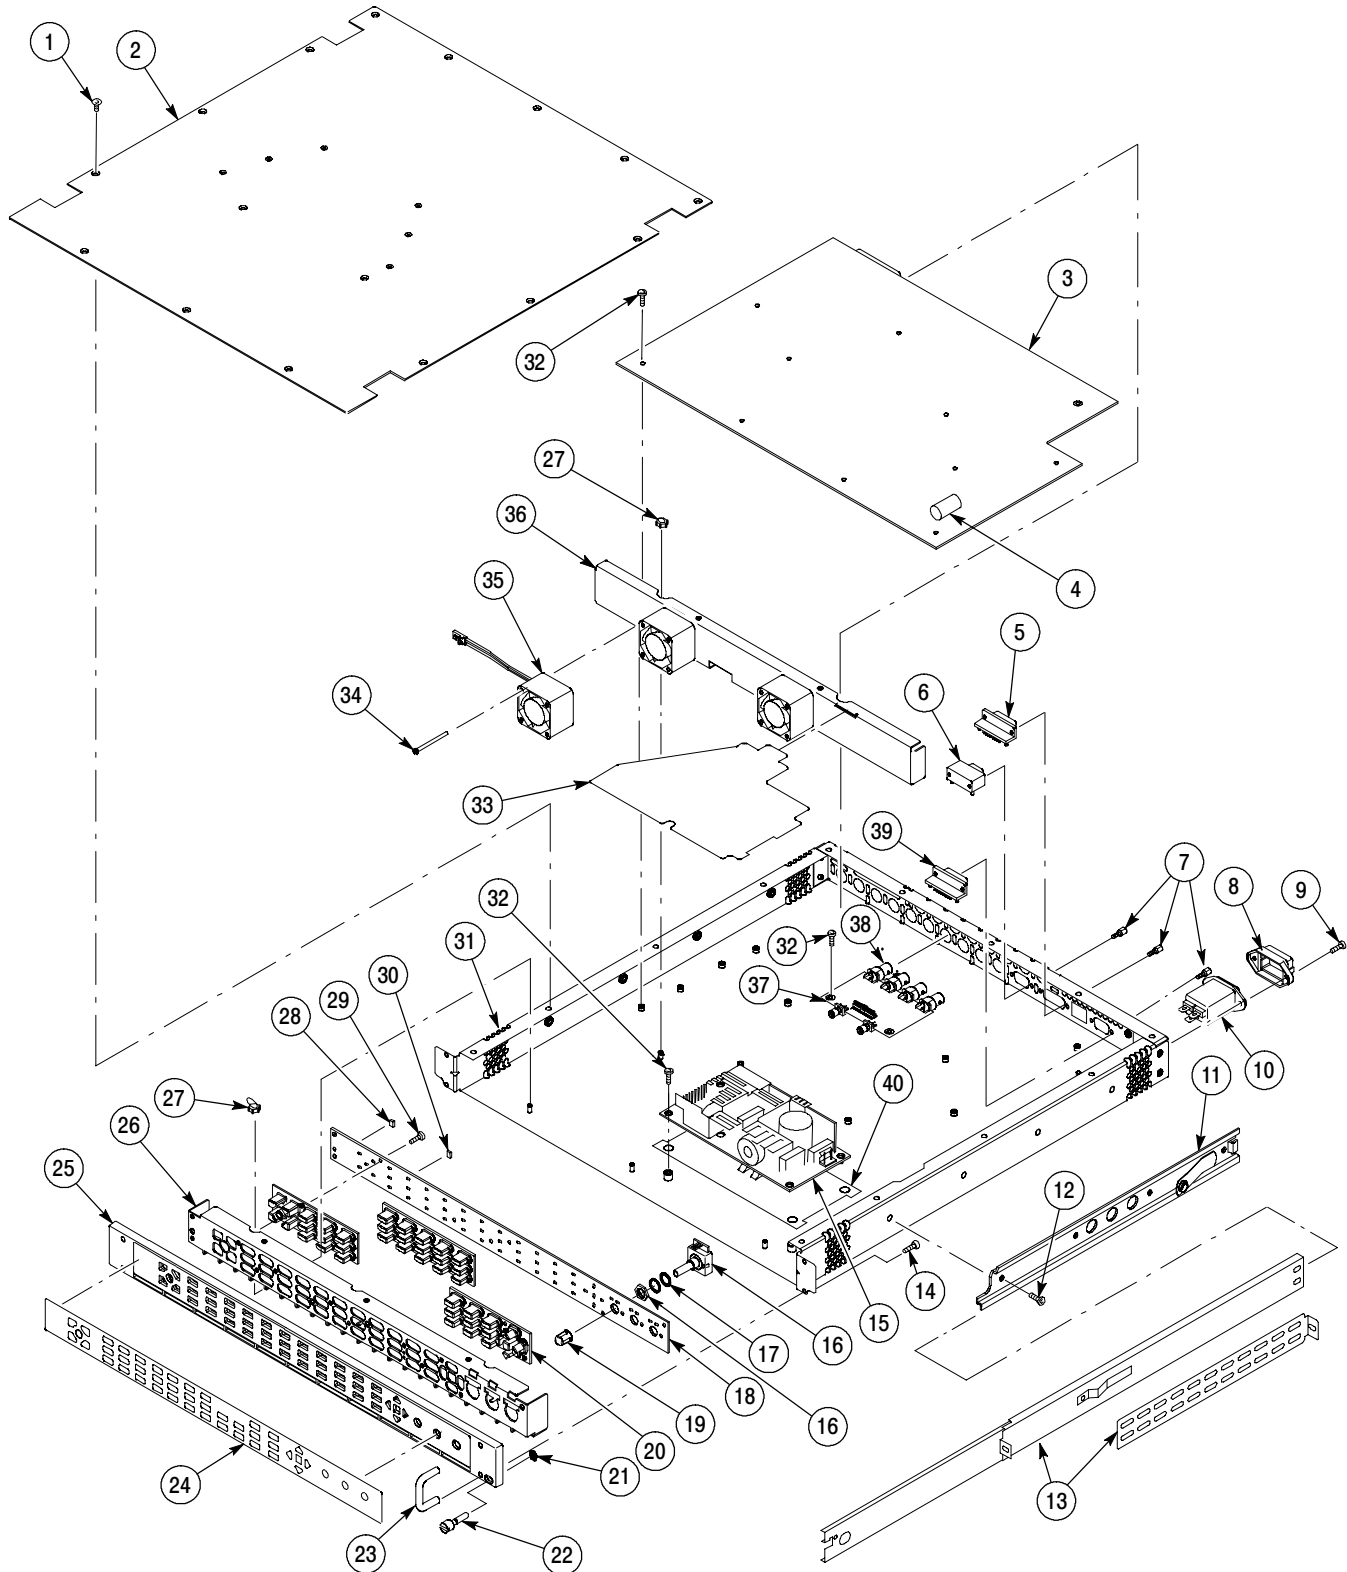

Figure 5-2: Replaceable mechanical parts, WVR6100
**WVR6100 Replaceable mechanical parts (Figure 5-2)**
**WVR6100 Replaceable mechanical parts (Cont.)(Figure 5-2)**